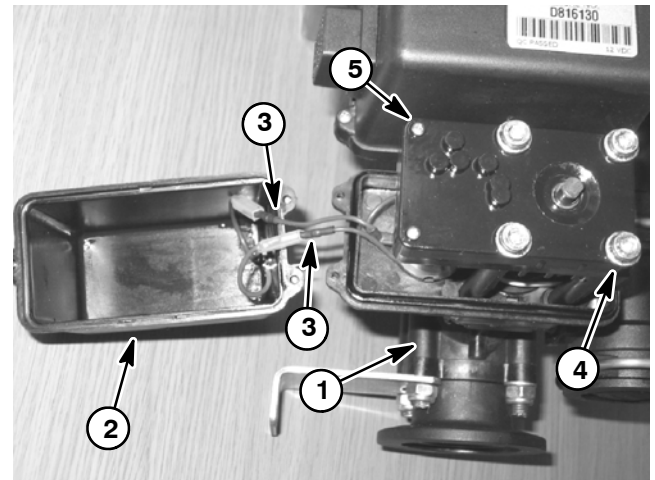

Figure 32.3
3. To remove cover from boom valve (Fig. 32.3):
- Loosen three (3) screws that secure valve motor cover to valve motor assembly.
1. To install cover to boom valve motor (Fig. 32.3):